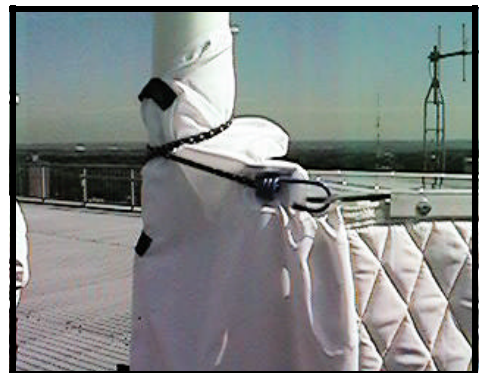

Figure 3 Bungee Cord Positioning (Side View)
7. Using the shorter bungee cord (12 inches) insert one hook of the bungee cord into one hole in the rear on the Lexan top piece, wrap the bungee at least once around the sensor pole at a point directly above the electronics enclosure. Insert the hook into the other hole at the rear of the HEAT top piece. (The bungee should be tight, more turns around the pole may be necessary to take up any slack). Refer to Figure 3.